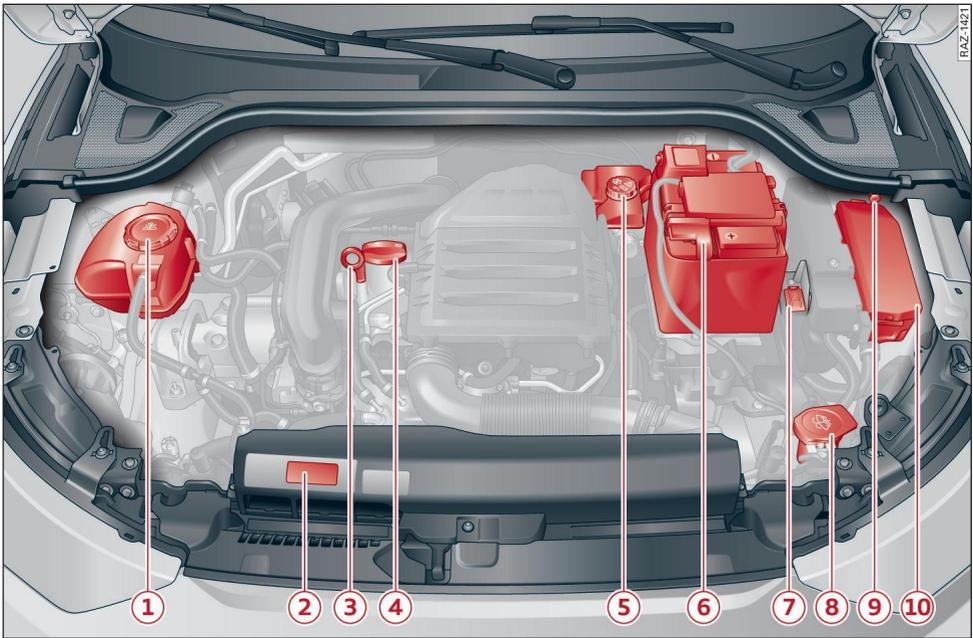
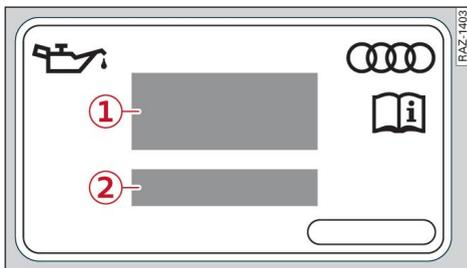

Fig. 136 Engine compartment layout: Example
Fig. 137 Engine oil sticker
If you have to top up the engine oil, use one of the oils that meet the engine oil standard specified on the sticker ⇒ Fig. 137. The sticker with the specified standard is located at the front of the engine compartment ⇒ page 208, Fig. 136. If you use this oil, you can top up the engine oil level as often as necessary.
- ▶ Pull out the oil dipstick ⇒ page 208, Fig. 136, wipe it with a clean cloth and insert it again, pushing it in as far as it will go.